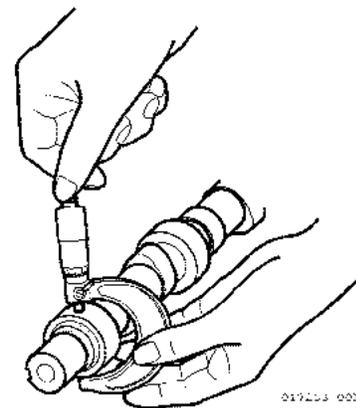

Figure 5-116
- ◆ Measure the camshaft outside diameter with a micrometer (Figure 5-116). The oil clearance shall be calculated by subtracting the measured camshaft outside diameter from the inside diameter of the camshaft bearing or bushing. The camshaft bushing at gear case side is measured with a cylinder gauge after insertion to the cylinder (Figure 5-116). Replace if they exceed the limit or are damaged.